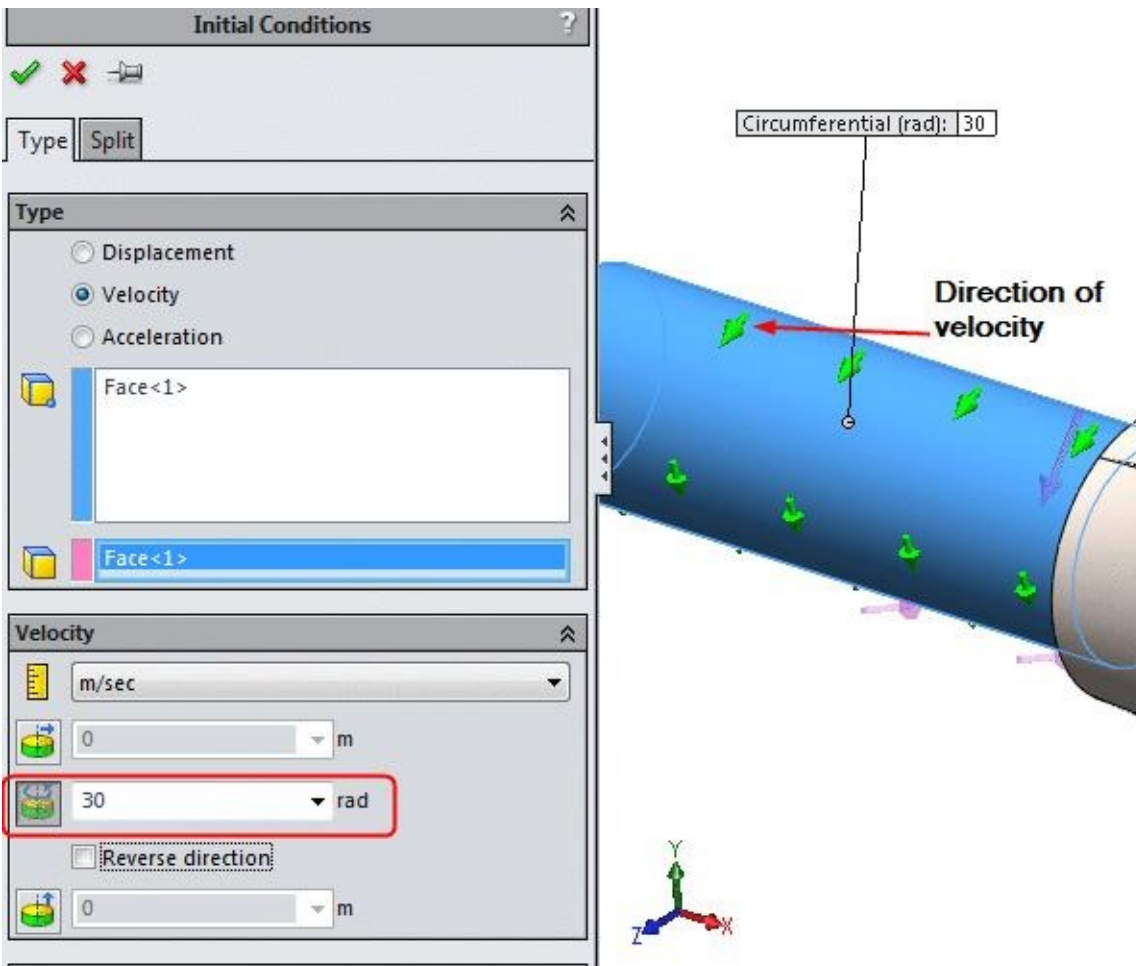

Figure-22. Circumferential velocity defined
- Select the **Circumferential** button from the **Velocity** rollout and specify the value as **30** in the corresponding edit box; refer to Figure-22.